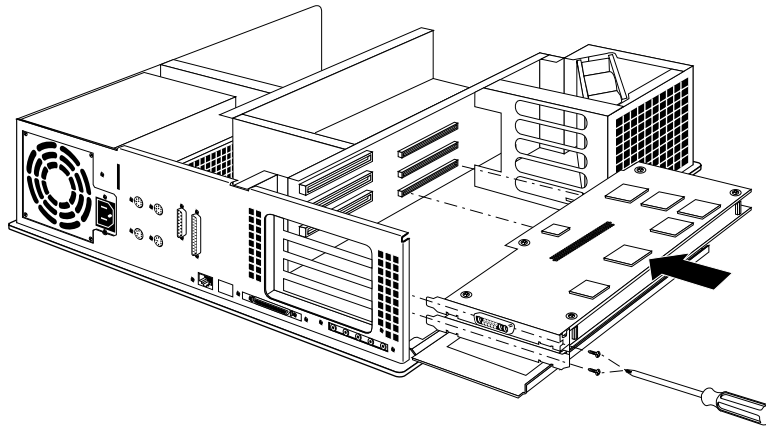

Figure 8-43 Installing the Graphics Board Set in the Indigo² Chassis
Note: Figure 8-43 shows an XZ board set. You install an XL board or Extreme board set the same way.
- Align the right side of the board or board set with the metal grooves on the right. Align the connector on the left side of the board or board set with the connector opening on the left, as shown in Figure 8-43.